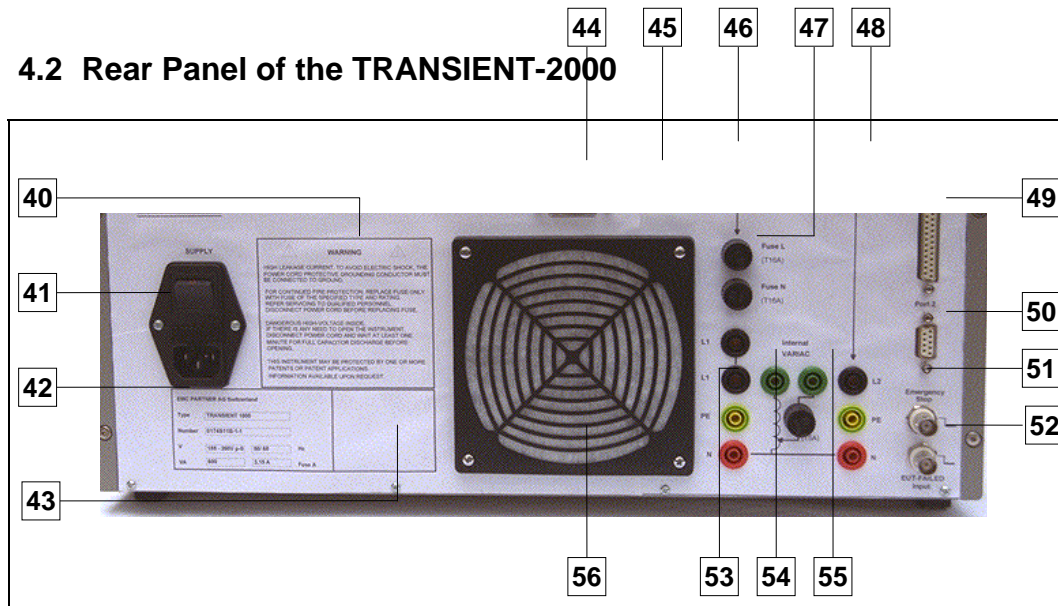

Fig. 4.2
4.1.2.7 Button Variac (25)
With this button the EUT power is turned on from variac. When the power of the EUT is feed from input (48) (see Figure 4.2) e.g. internal or external variac, this status will be indicated by the LED (25) .
4.1.2.8 Synchro ON EUT Power (36)